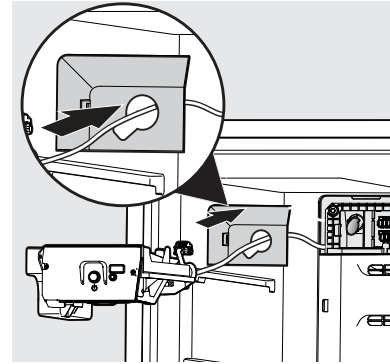

Figure 4
5. Insert the ice maker connector and wire through the hole in the middle of the water inlet and electrical cover. See Figure 4.